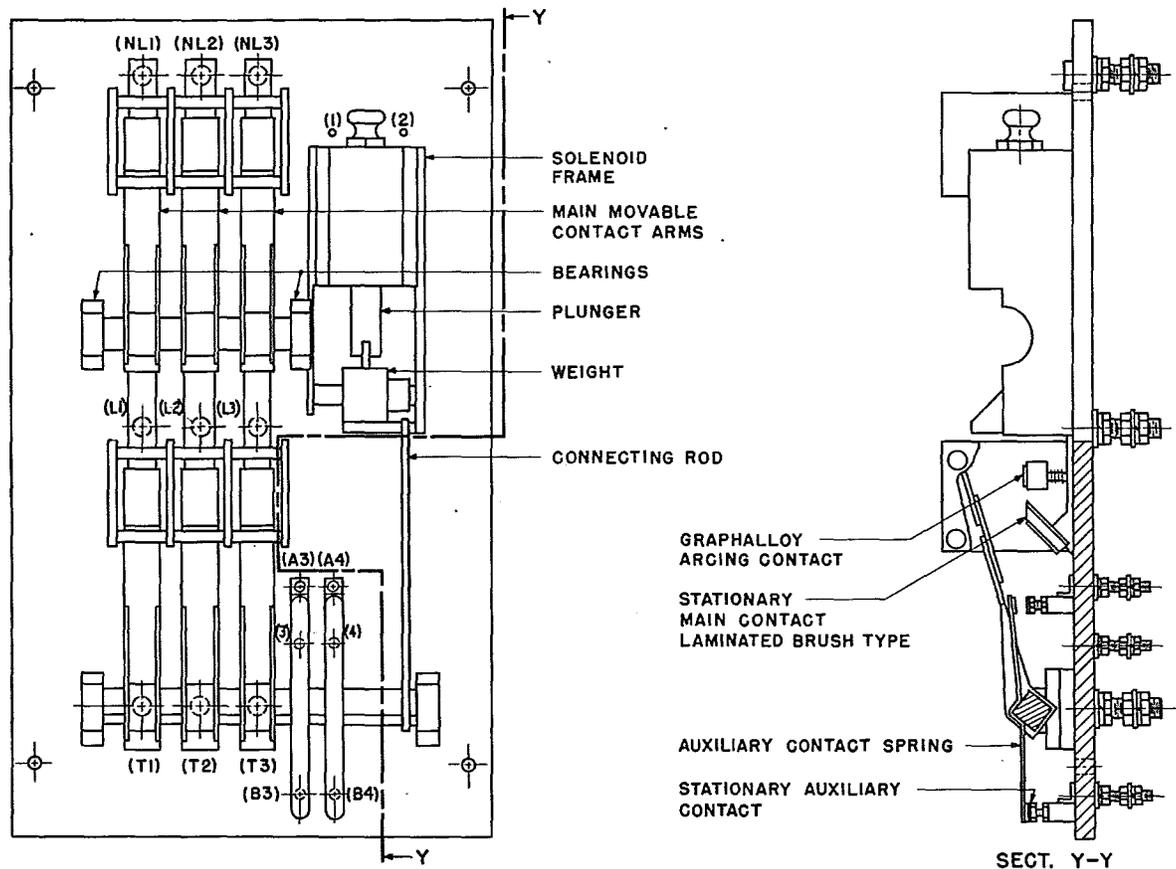

Fig. 1 - Contactor With Laminated Brush-type Main Contacts
(1) Remove dirt or other obstructions from graphalloy arcing contacts of the type shown in Fig. 1 or replace springs, as required.